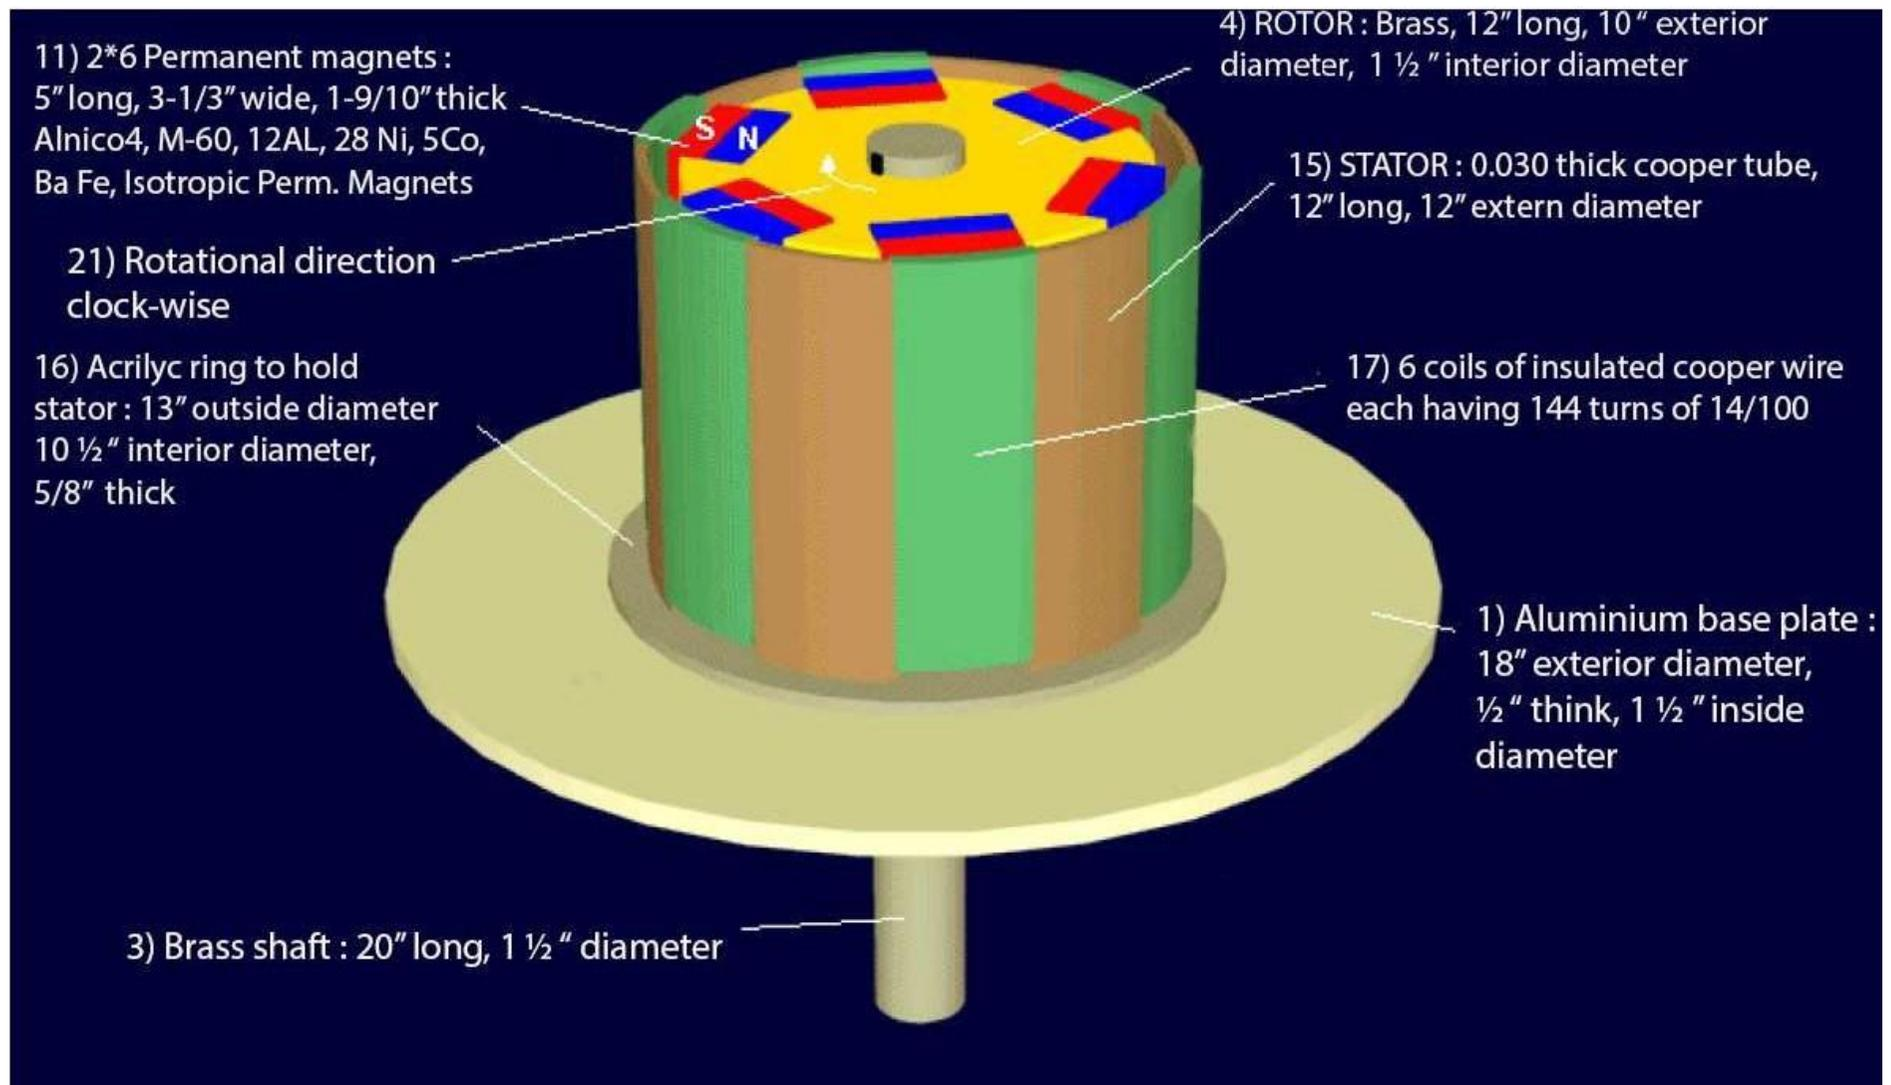
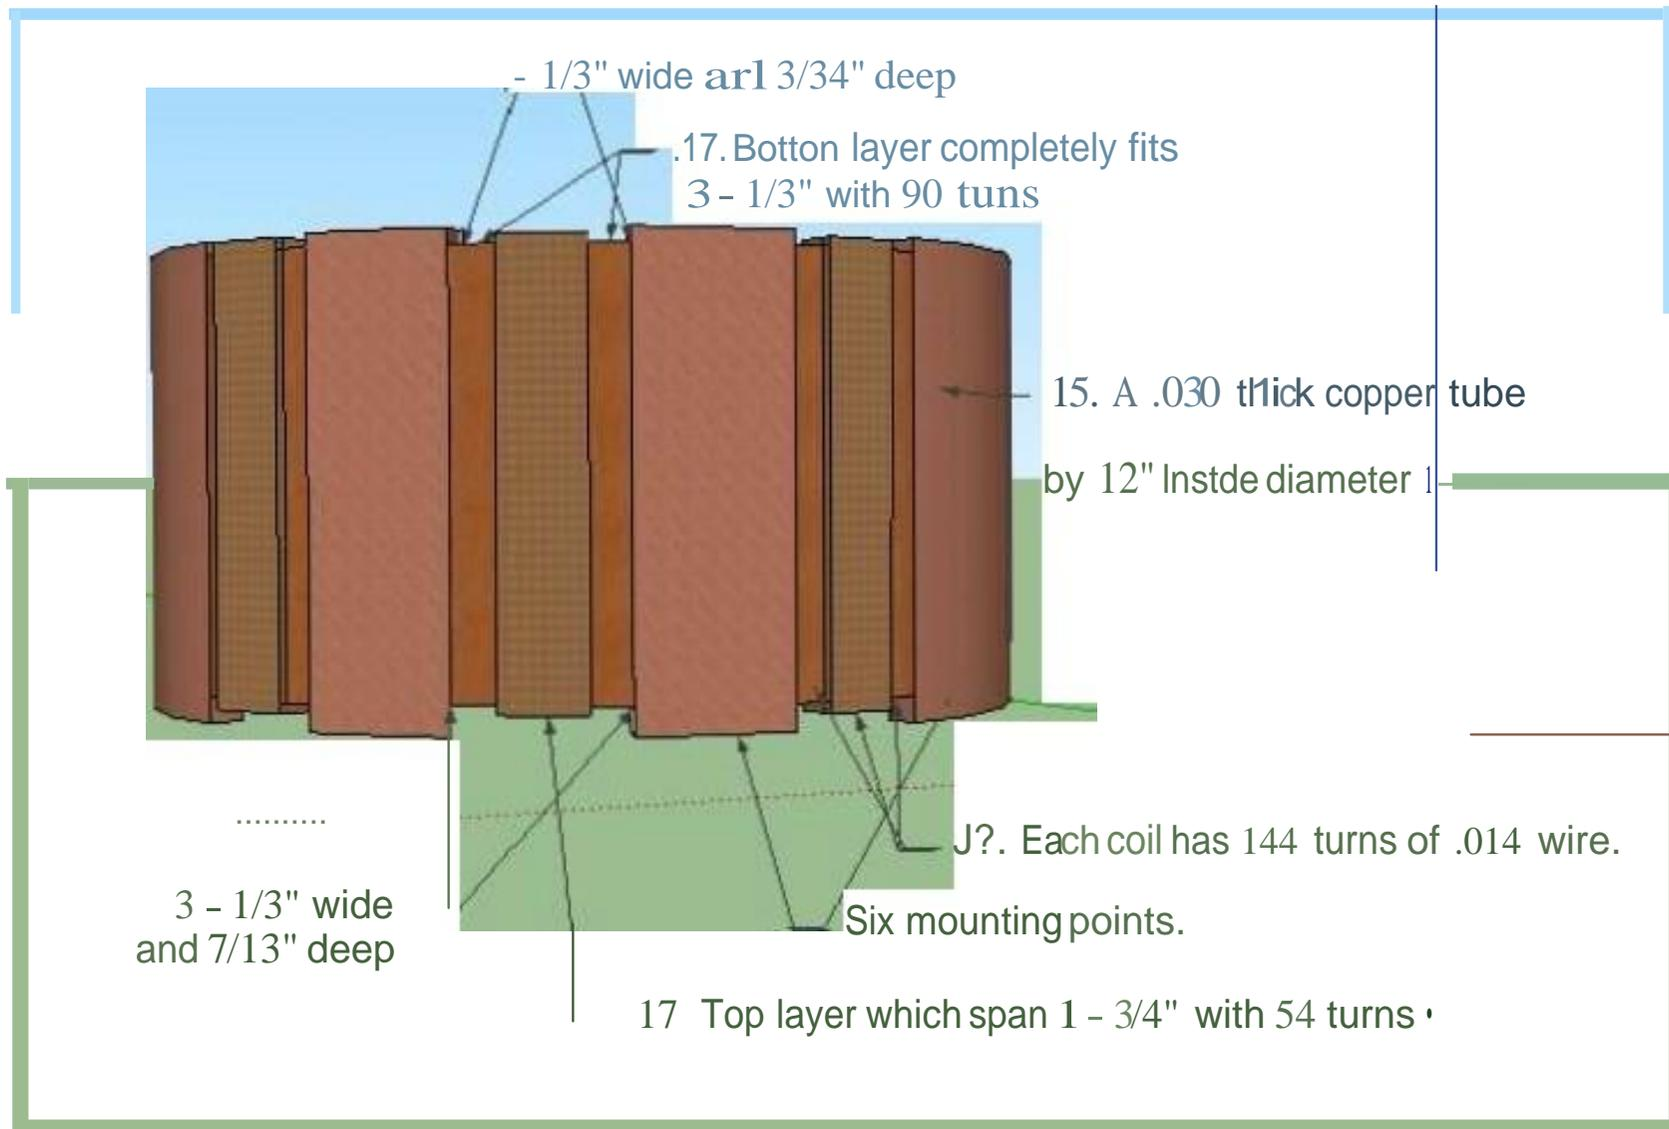

Figure 10.
Figure 11.
- 15) You'll next need a copper tube. It is 0.3" thick, 12" long and has a diameter of 12" on the inside diameter. Six slots are then cut at the top of this tube. These slots are found to have a width of $3\frac{1}{3}$ " and $\frac{3}{34}$ " deep, spaced at 60 degrees from each other. You can then repeat the same process over again at the bottom. These slots are found to have a width of $3\frac{1}{3}$ " and $\frac{7}{13}$ " deep. However, these slots have to be aligned with the upper ones and both of them should correspond to each magnet. In Figure 10 will see 6 mounting points (Figure 11).